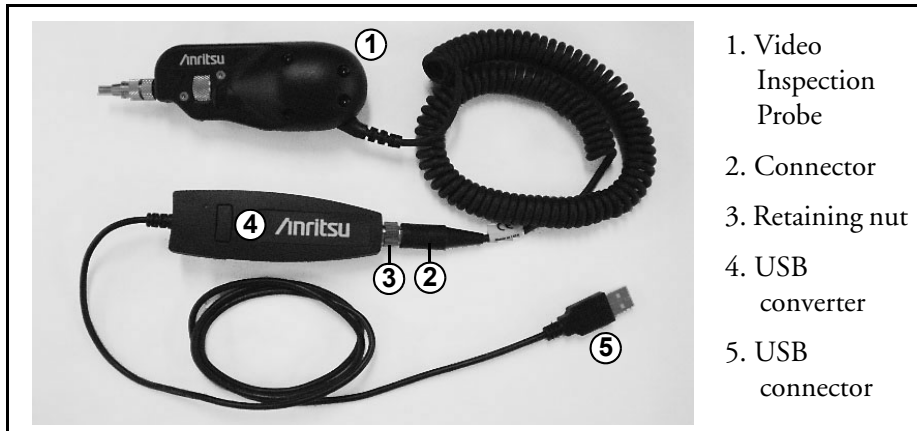

Figure 11-7: VIP Connected to USB Converter
1. Align the connector on the coiled cord of the VIP with the receptacle on the USB converter (see items 2 and 4 in Figure 11-7 on page 11-7). When properly aligned, the connector slides into the receptacle.
2. Use the retaining nut (see item 3 in Figure 11-7 on page 11-7) on the connector to secure it to the USB converter (see item 4 in Figure 11-7 on page 11-7).
2. Insert the USB connector (see item 5 in Figure 11-7) into the USB Down port.